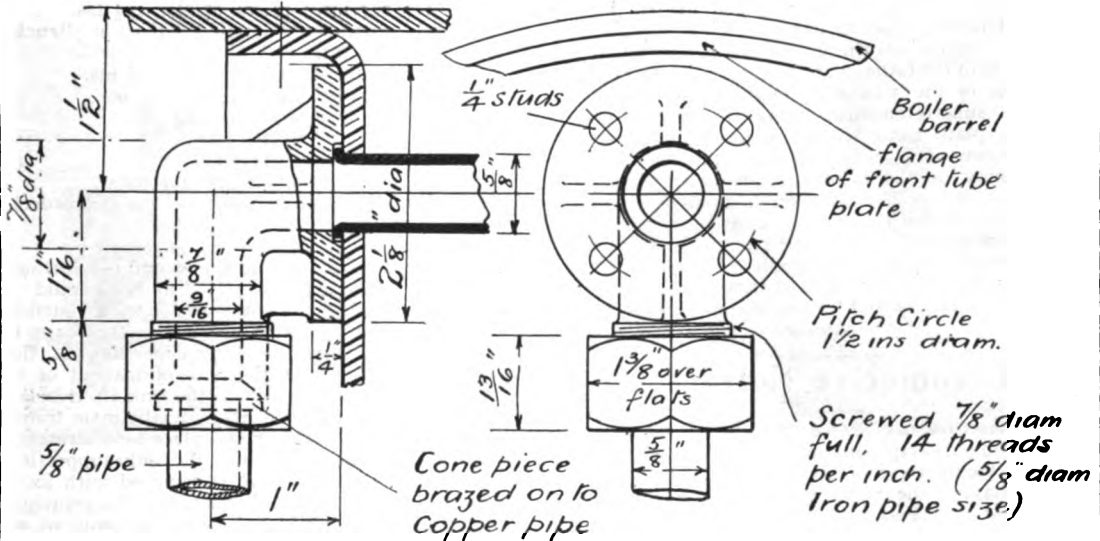
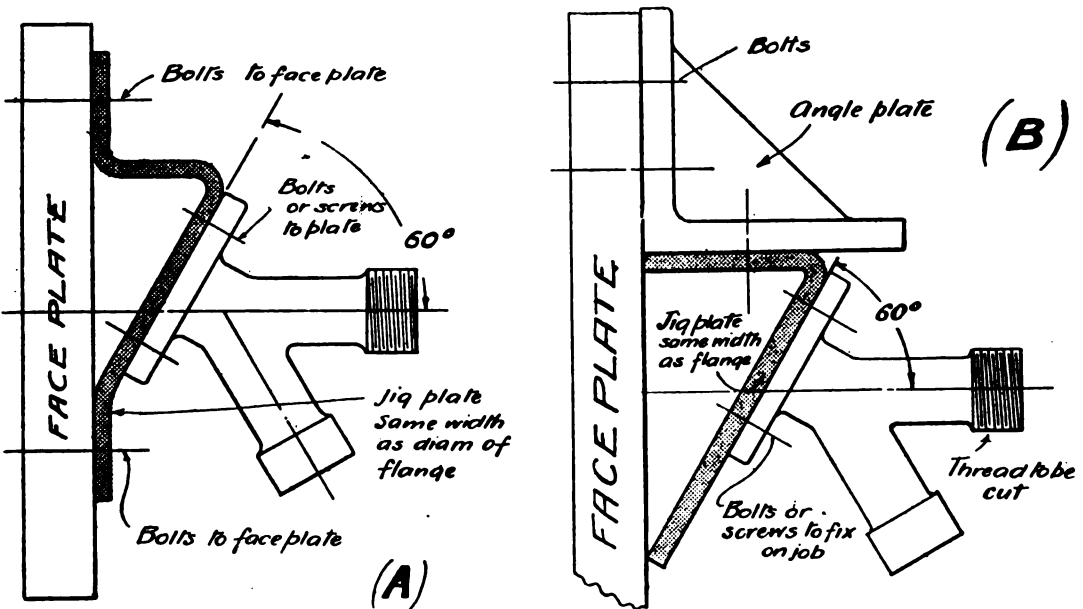

FIG. 8.—SINGLE PIPE FLANGED UNION ELBOW CONNECTION FOR MAIN STEAMPIPE.
FIG. 11.—SHOWING TWO METHODS OF CUTTING THE UNION THREAD ON Y-PIPE CONNECTIONS.
large flow. The arrangement is shown by diagram Fig. 10. If the total current taken by the external circuit of lamps is 3 amps., each cell will give 1 amp. This can be proved experimentally by connecting an amperemeter (A) in the external circuit, as Fig. 10, and then in circuit with each cell in turn, as Fig. 11. The battery is the equivalent of one large cell. If a voltmeter is connected to the
With regard to the unions, there are three methods of arranging these joints in common use. In Fig. 8 it is intended that a collar be brazed directly on to the pipe and coned in the lathe. This is convenient where the union nut is best kept to the minimum dimensions and where the pipe is short and readily handled. It can be recommended in this instance as the pipe to the gridiron superheater would not be very long. The method indicated in the uppermost arm of the Y pipe (Fig. 9) is very common where the union parts employed are stock articles. The joint is a coned one, with metal to metal face, ground in, and the steam pipe is screwed or fitted in the tail piece and brazed or silver-soldered. The other joint is the well-known flat joint, an asbestos washer,
The thread on the spigot portion of the connection, shown in Fig. 8, may be cut in the lathe, the flange being bolted down to an angle-plate fixed to the faceplate in the usual way. In the case of the Y-joint, illustrated in Fig. 9, a special jig will be required. This may take the form of a piece of plate, bent to the shape shown in the sketch, fixed to the faceplate of the lathe, or, as I noticed the charge-man of one of the 3-in. scale engines being built under my superintendence doing, by means of a piece of plate fixed to the angle-plate in the manner shown at B (Fig. 11). The first method, however, may be the most suitable, as it would appear that it can be used on a smaller lathe. All the passages in the Y-pipe may be cored in the larger sizes and cleared with a drill. In the case of the 1½-in. scale locomotive, however, it will hardly be worth coring the castings, where the patterns are only required for one engine especially.